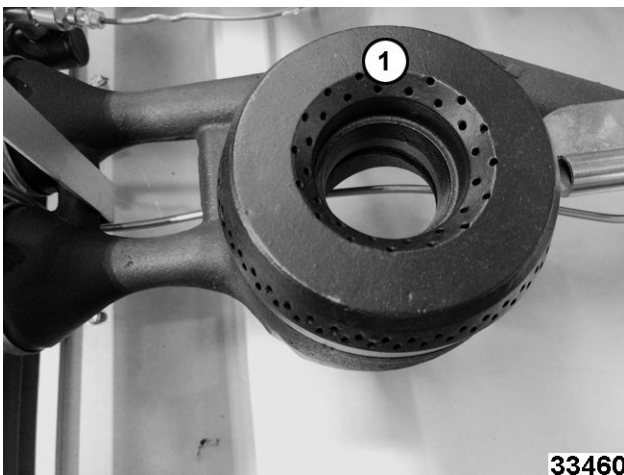

Fig. 26
- Lift burner heads (1, Fig. 26) off.